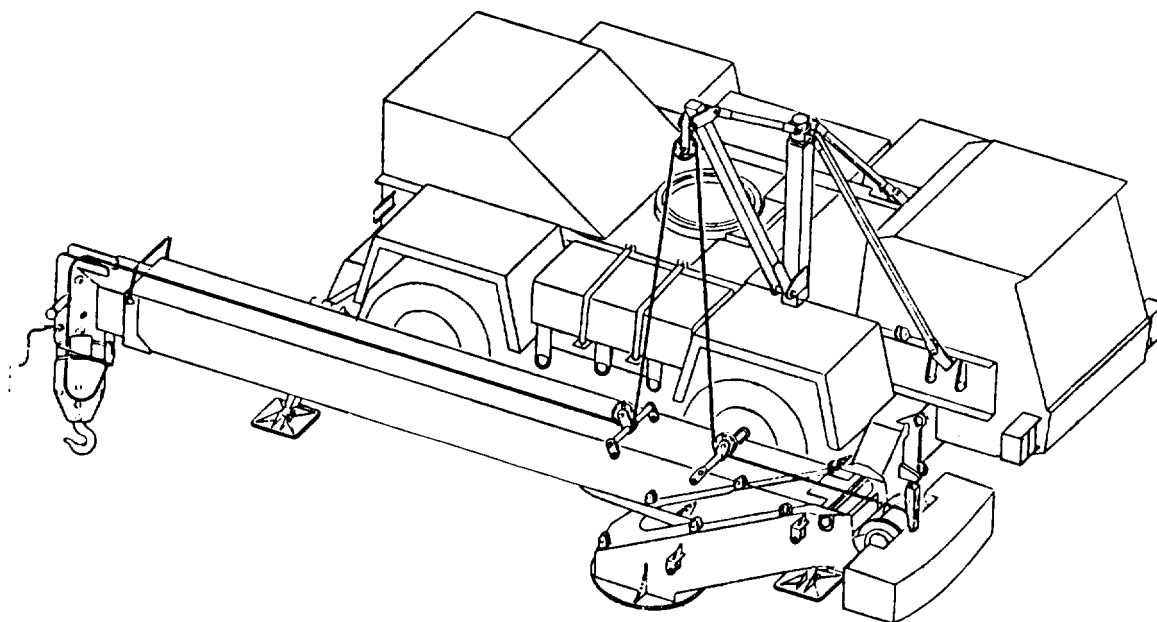

Figure 5-25 *Lowering the Upperstructure*
- b. Align upperstructure parallel to carrier with boom tip to rear and counterweight to front (Figure 5-25).